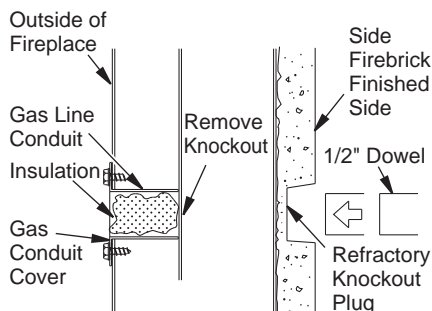

Figure 24 - Gas Line Knockout
1. Remove knockout indentation on refractory or firebrick wall located approximately 2" above the refractory hearth floor. The knockout indentation must be firmly tapped with any solid object such as a 1/2" dowel until it is released. Remove fragmented portions of refractory (see Figure 24).